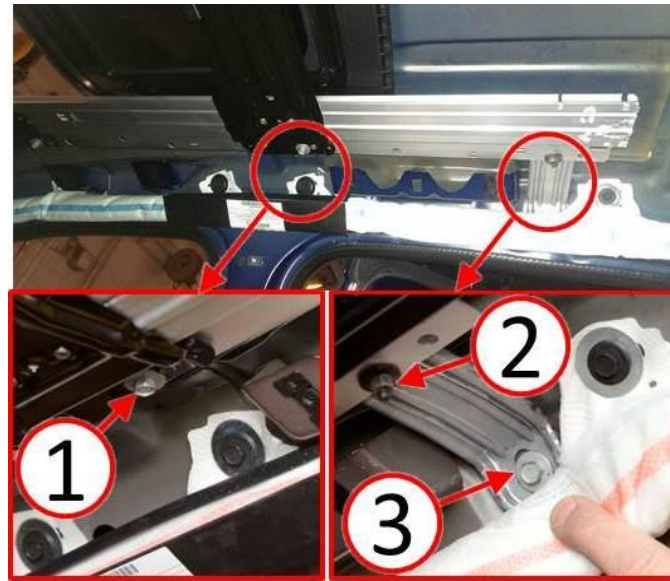

Fig. 2 Sunroof Module Fasteners
7. Using a 10 mm socket, remove fastener (1) and set aside. Loosen but do not remove fasteners (2) and (3) (Fig. 2).